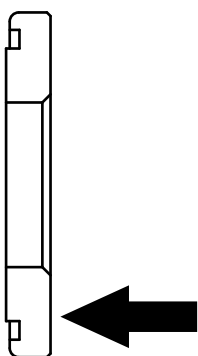

Fig. 25 Grinding down the stationary bushing
*Note: Grind down the stationary bushing at the highlighted side, see Fig. 25 "Grinding down the stationary bushing", Page 16.*